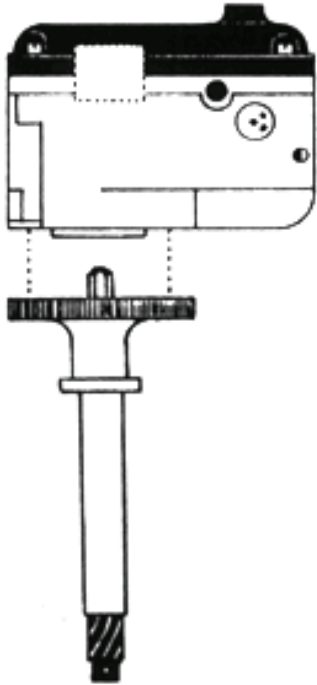

Fig. 1
2. Remove the four Allen socket head screws, holding the base to the magneto housing and separate the base from housing (Fig. 1).